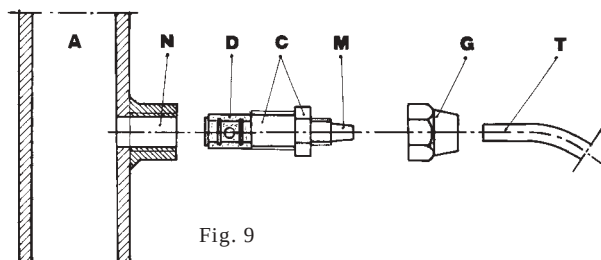

Fig. 9
- g. - Select the most appropriate injection point on a pipe of the plant to be treated and there fit a 3/8" female gas thread connector (similar to BSPm). This connector is not supplied with the pump. Screw the injection valve to the gas connector, inserting a gasket as shown in Fig. 9. Then connect the discharge hose to the conical connector on the injection valve and fix it with the supplied tube nut G. The injection valve also acts as no return valve by means of a cylinder sleeve (elastomer, standard supplied in Viton).
3.1 - INJECTION VALVE INSTALLATION DIAGRAM Fig. 9